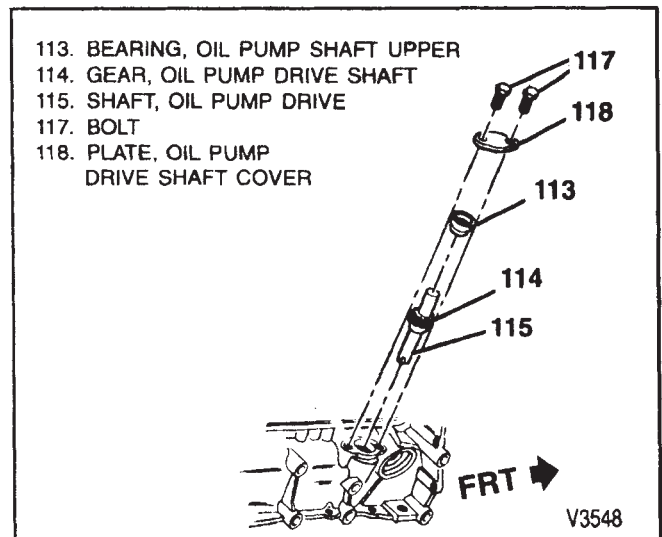

Figure 17—Oil Pump Drive Shaft and Components
**Remove or Disconnect (Figure 17)**
1. Bolts (117).
2. Plate (118).
3. Bearing (113).
4. Shaft (115) and gear (114) assembly.
- Sealing surfaces of plate (118) and block.
**Install or Connect (Figure 17)**
1. Shaft (115) and gear (114) assembly. Turn the shaft until it indexes the camshaft gear pilots properly in the oil pump body.
2. Bearing (113).
3. Plate (118). Apply a 1.5-mm (1/16-inch) bead of RTV to the plate.
4. Bolts (117).
- Bolts (117) to 14 N.m (124 in. lbs.).